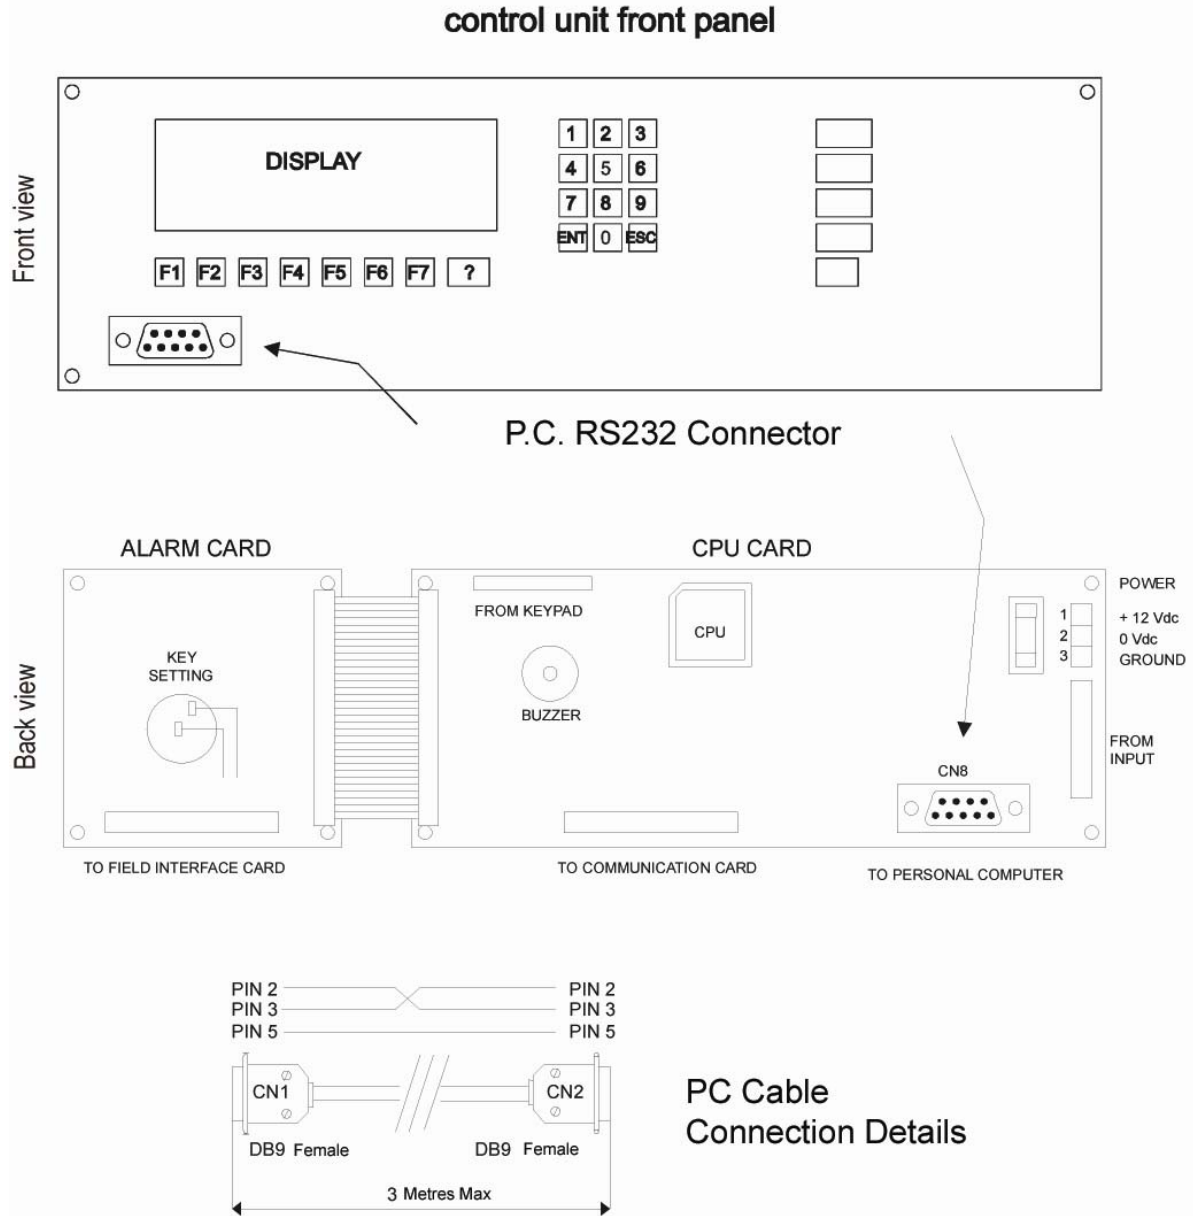

Figure 6 – PC Connection Details
The control panel can be connected to a Personal Computer (PC) using the RS232C serial port, to permit initial programming or system management with an appropriate management software (supplied with the system). Either of two serial ports may be used to connect a PC: the 9 pin male connector found on the front panel, or reverse side of the CPU card (CN8). The CPU card layout and interface lead wiring diagram are shown in Fig. 6